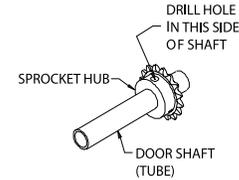

Figure 4A
- 1) Use non-threaded hole in door shaft sprocket as a guide and drill a 3/8" diameter hole through one side of the door shaft. **Fig. 4A.**